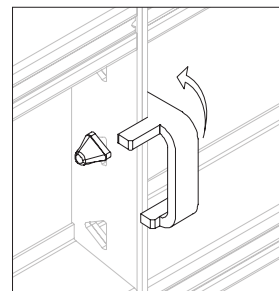

Fig. A4.01b
2. Insert the wedge clip into the triangular slots always from the right side and turn the clip towards the panel, then drive the wedge to lock it into position. (Fig. A4.01b)